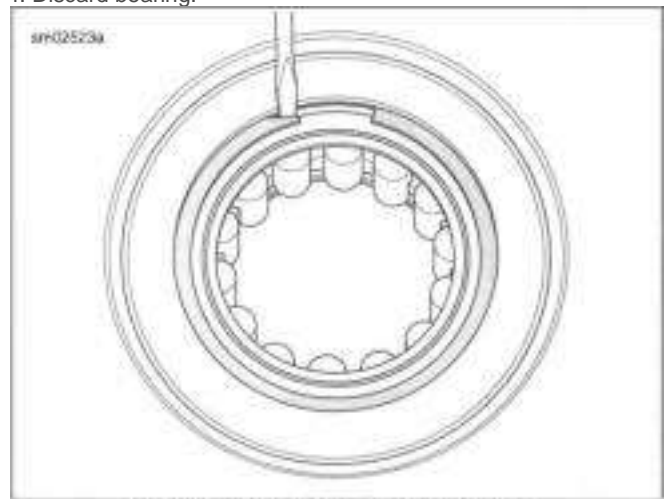

Figure 4-70. Remove Retaining Ring
- a. See Figure 4-70. Remove bearing retaining ring.